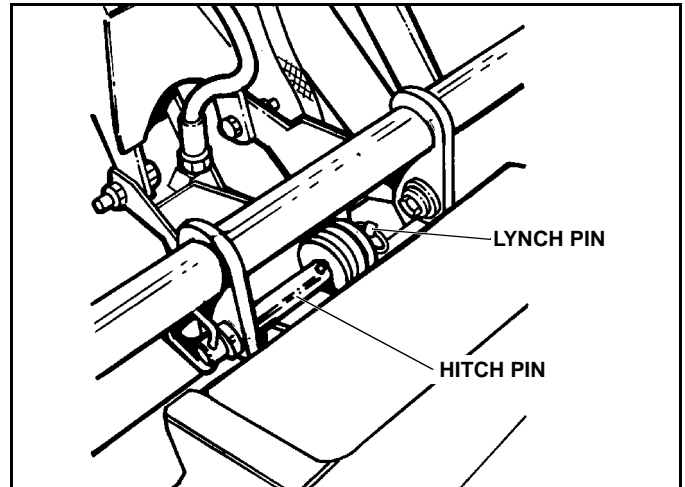

Figure 1-7
8. Pull the Lynch Pin from the upper (center) Hitch Pin and slide Hitch Pin out to disconnect the Lift Arm and Light Bar from the upper (center) hitch point of the Sub-frame. (See Figure 1-7)